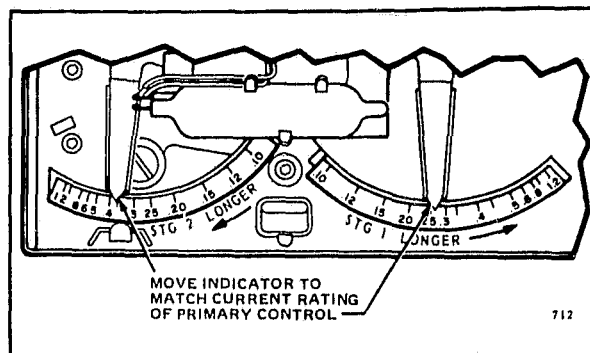

FIG. 7—ADJUSTABLE HEAT ANTICIPATOR SCALES.
5. Set the heat anticipator indicator(s), Fig. 7, to the respective current setting of each stage. See Heat Anticipator Setting.